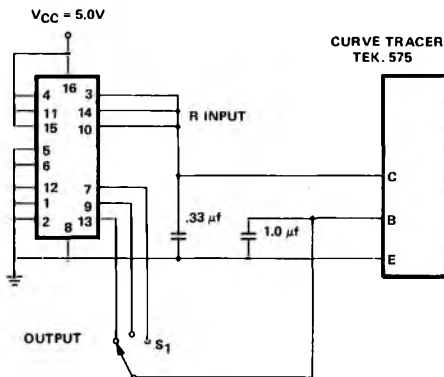

FIGURE 1
- Verify in each of three (3) positions of S₁ (Figure 1) that the following occurs per Figure 2.